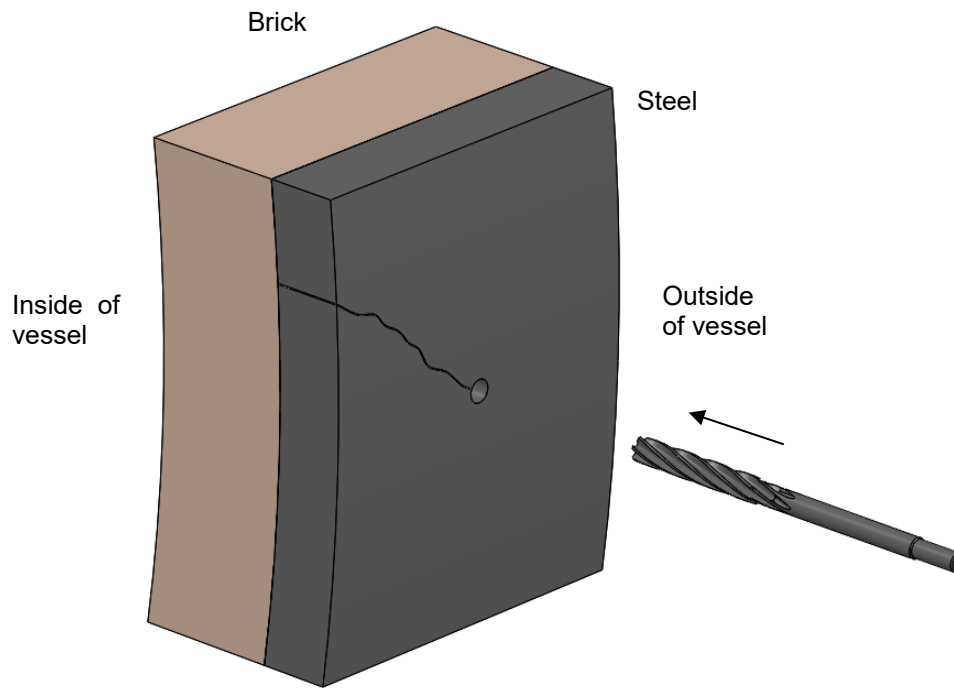

Figure 6.2-11
7. Using the Spiral Reamer BTRS-1533-B-0, complete reaming up to the masonry as shown in Figure 6.2-11. Stop drilling when the end of the spiral reamer reaches the masonry.